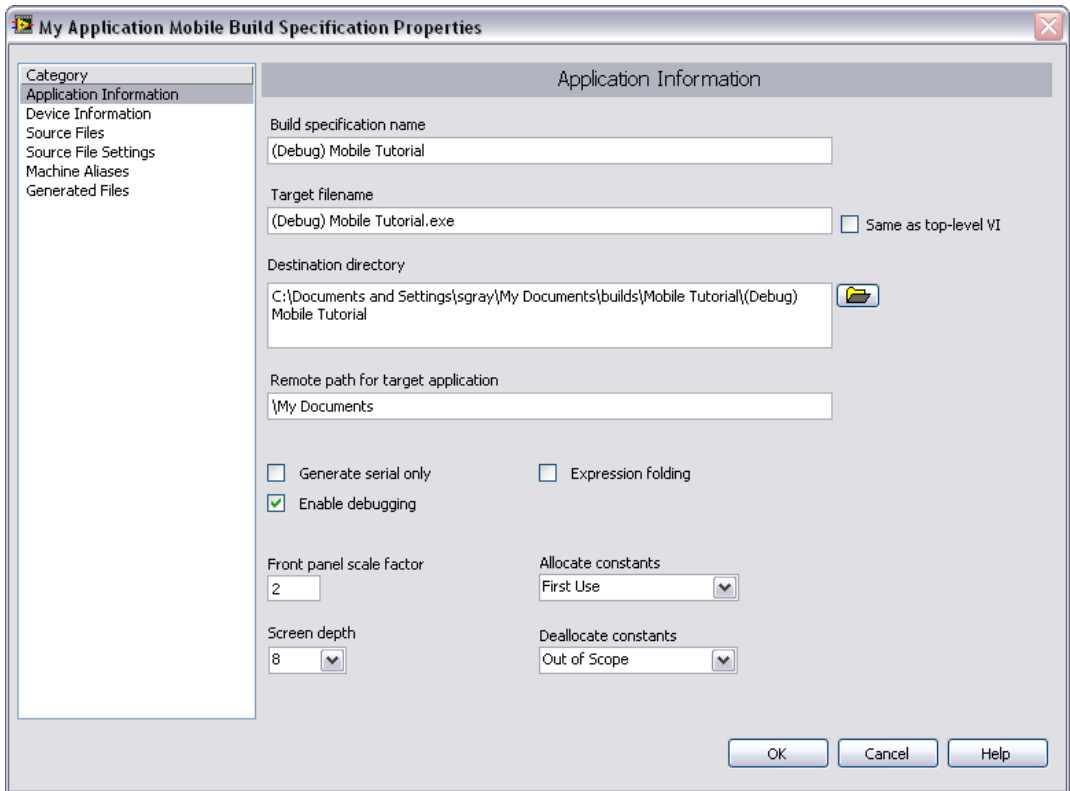

Figure 7. Creating the Debugging Build Specification
- Place a checkmark in the **Enable debugging** checkbox to generate debugging information when you build the VI into an application as shown in Figure 7.